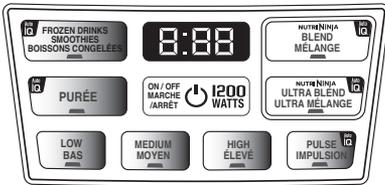

Fig. 6
**NOTE:** Nutri Ninja™ | Ninja® Blender Duo™ with Auto-iQ™ Technology can sense which jar is on the motor base. The available function lights will illuminate depending on which jar is placed on the motor base. (Fig. 6)